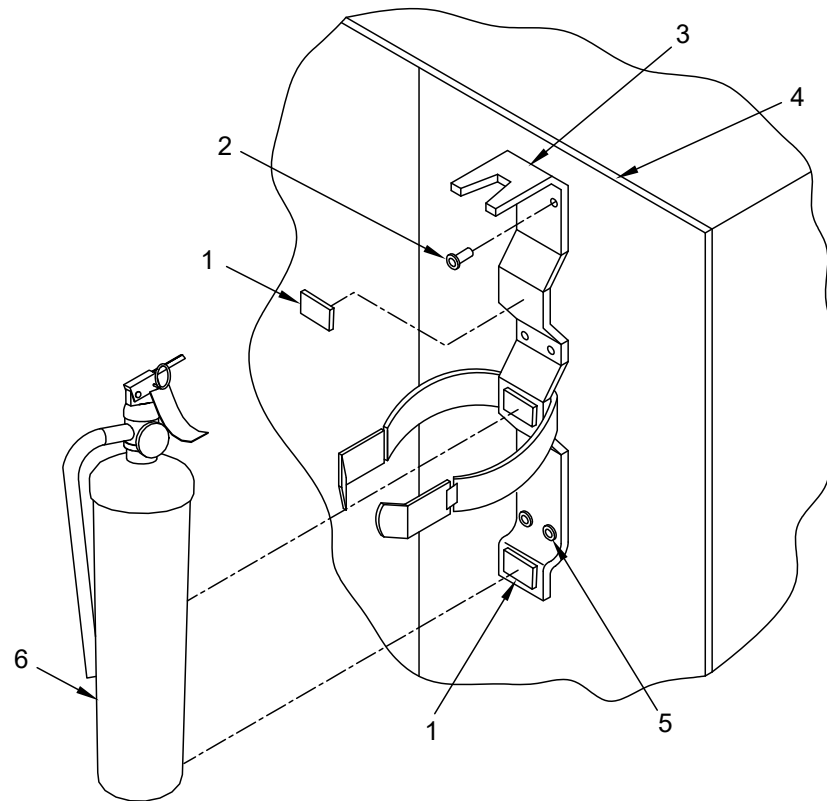

Figure 4. Fire Extinguisher Bracket Removal/Replacement.
2. Remove fire extinguisher (Figure 4, Item 6) from bracket (Figure 4, Item 3).
3. Drill out four rivets (Figure 4, Item 5) from fire extinguisher bracket (Figure 4, Item 3) using a drill with 3/16" bit.
5. Remove and discard fire extinguisher bracket (Figure 4, Item 3).
1. Position fire extinguisher bracket (Figure 4, Item 3) over Genset enclosure mounting holes (Figure 4, Item 4) and insert four rivets (Figure 4, Item 2).
2. Lock down four rivets (Figure 4, Item 2).
3. Ensure adhesive cushions (Figure 4, Item 1) are placed at contact points between bracket (Figure 4, Item 3) and fire extinguisher (Figure 4, Item 6).
4. Secure fire extinguisher (Figure 4, Item 6) in bracket (Figure 4, Item 3).